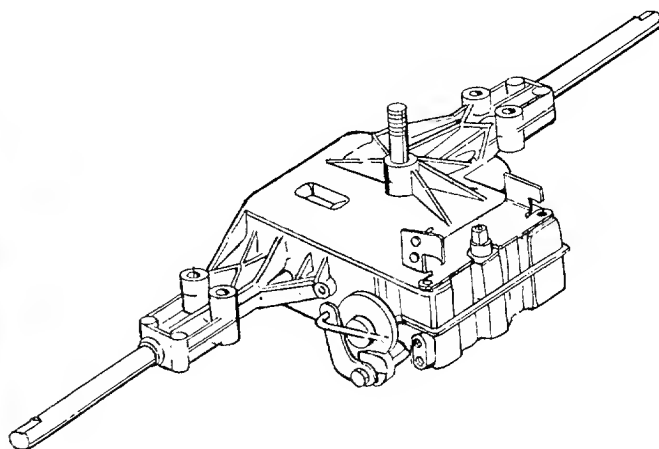

FIGURE 14.
**TRANSAXLE**—The transaxle is lubricated and sealed at the factory. It is not necessary to check the lubrication level unless the transaxle is disassembled for repair. The transaxle is lubricated with 24 ounces of E.P. Lithium grease. See figure 14.